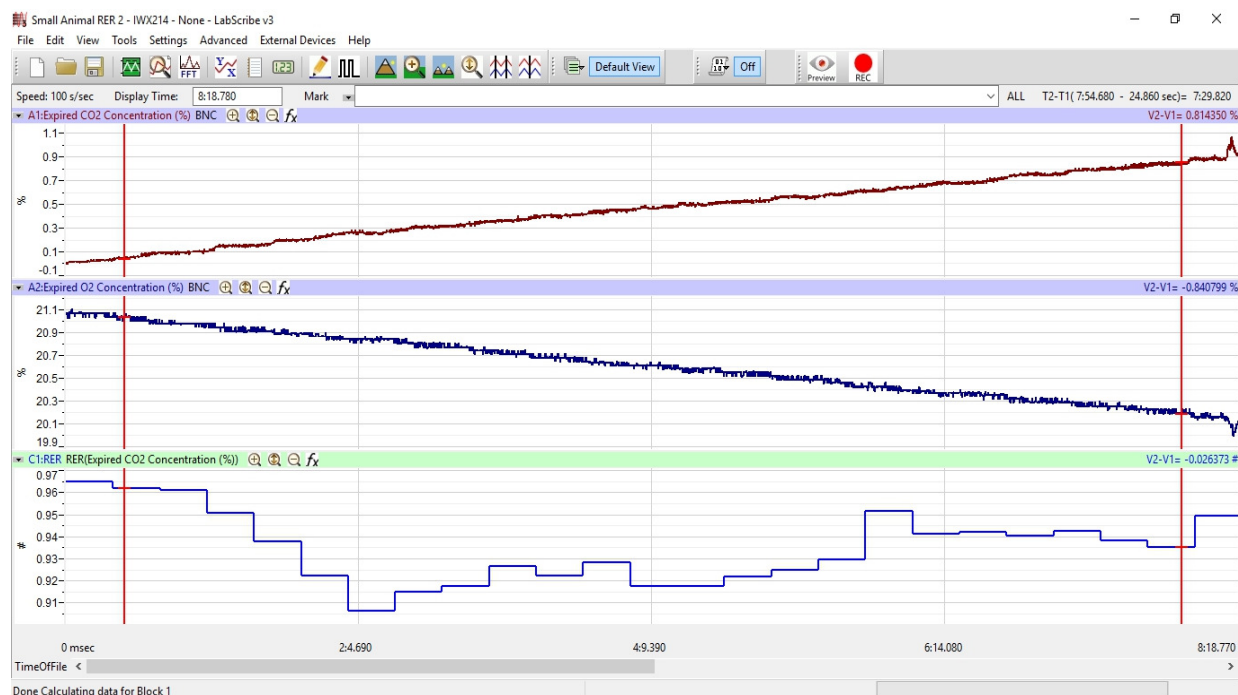

Figure AMe-8: The RER channel showing the histogram for the ratio of CO2 to O2 in the endothermic organism.
4. Click on RER Expired CO2 Concentration (%) on the RER channel. Choose Setup Function from the drop down list. This will open the RER Calculation Dialog window (Figure AMe-8).